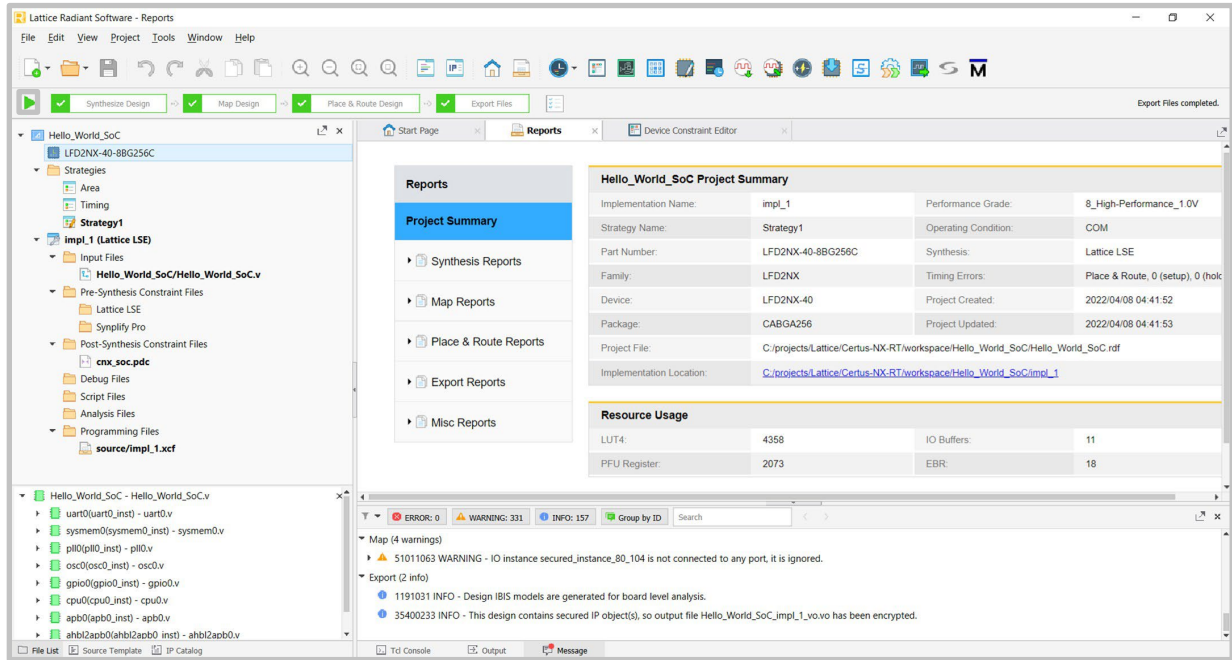

Figure 16: Compiling the Lattice Radiant Design
13. Compile the design by clicking on the **Run All** arrow, see **Figure 16**.